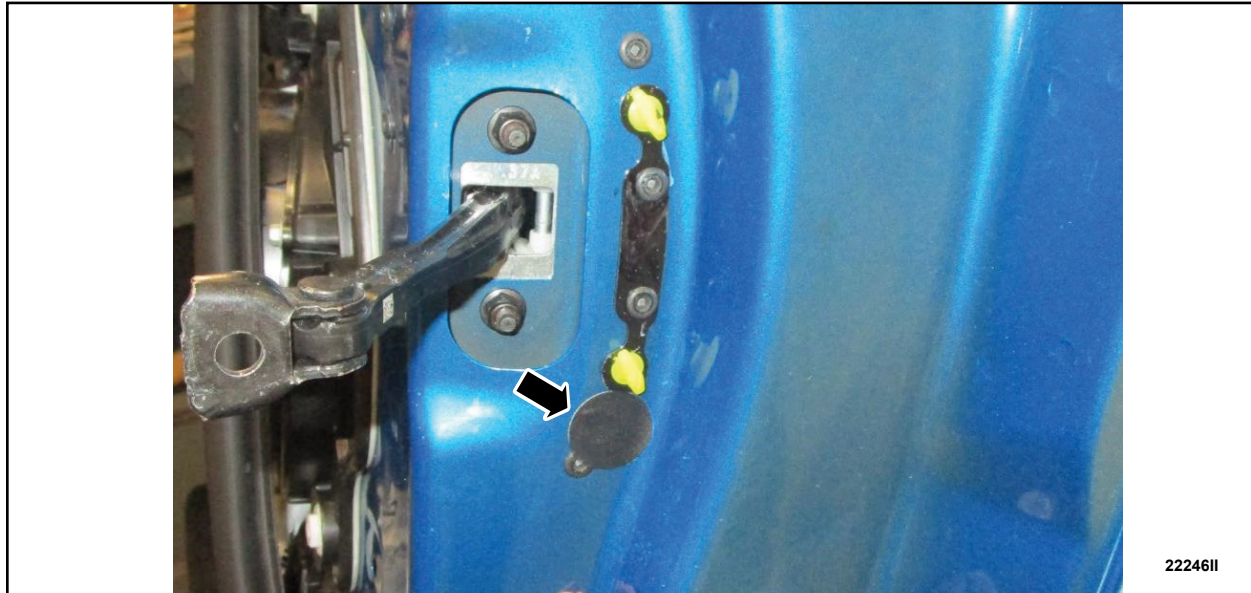

FIGURE 23
25. If any of the spot welds were broached earlier in this procedure, use the supplied 25 mm (0.99 in.) diameter black tape to cover each one as shown in Figure 23.